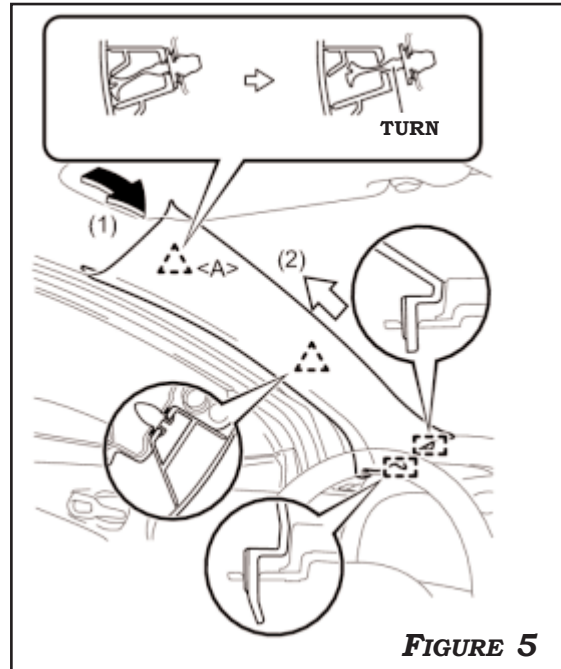

FIGURE 5
5. USE NEEDLE NOSE PLIERS TO TURN AND RELEASE CLIP A. DISENGAGE 2 CLIPS TO REMOVE THE LEFT FRONT PILLAR. **FIGURE 5**